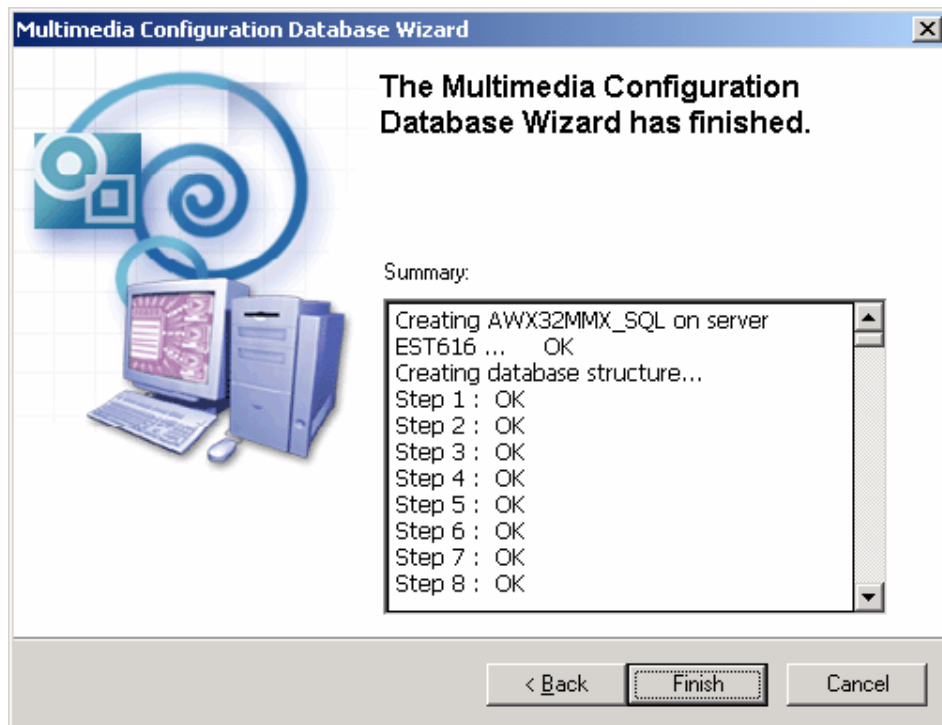

Figure 1.19. Database Creation Complete
7. Once the Universal Data Link has been created, a summary appears, as shown in **Figure 1.19**. the **Finish** button to complete the database creation.